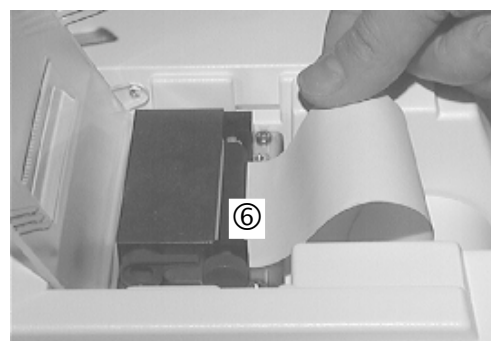

Fig. 37
4. Cut off the end of the paper square and insert it into the paper slot on the printer ⑥ (Fig. 37).